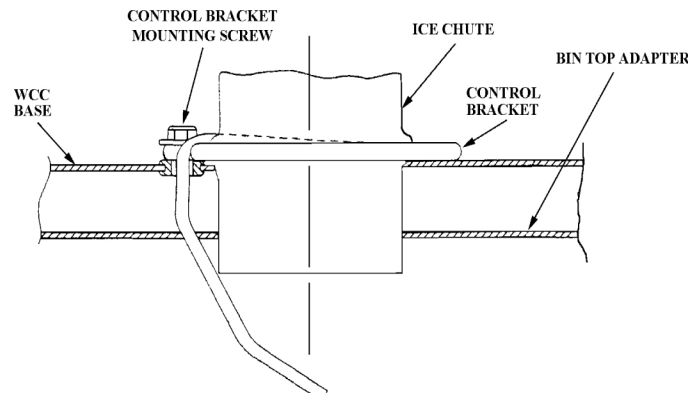

Figure 4. Bin Control
3. Check location of bin control, it should be directly under ice chute at a 45° angle. With control in place use mounting screw that was removed in Step 1 to secure bracket to base. See Figure 4.